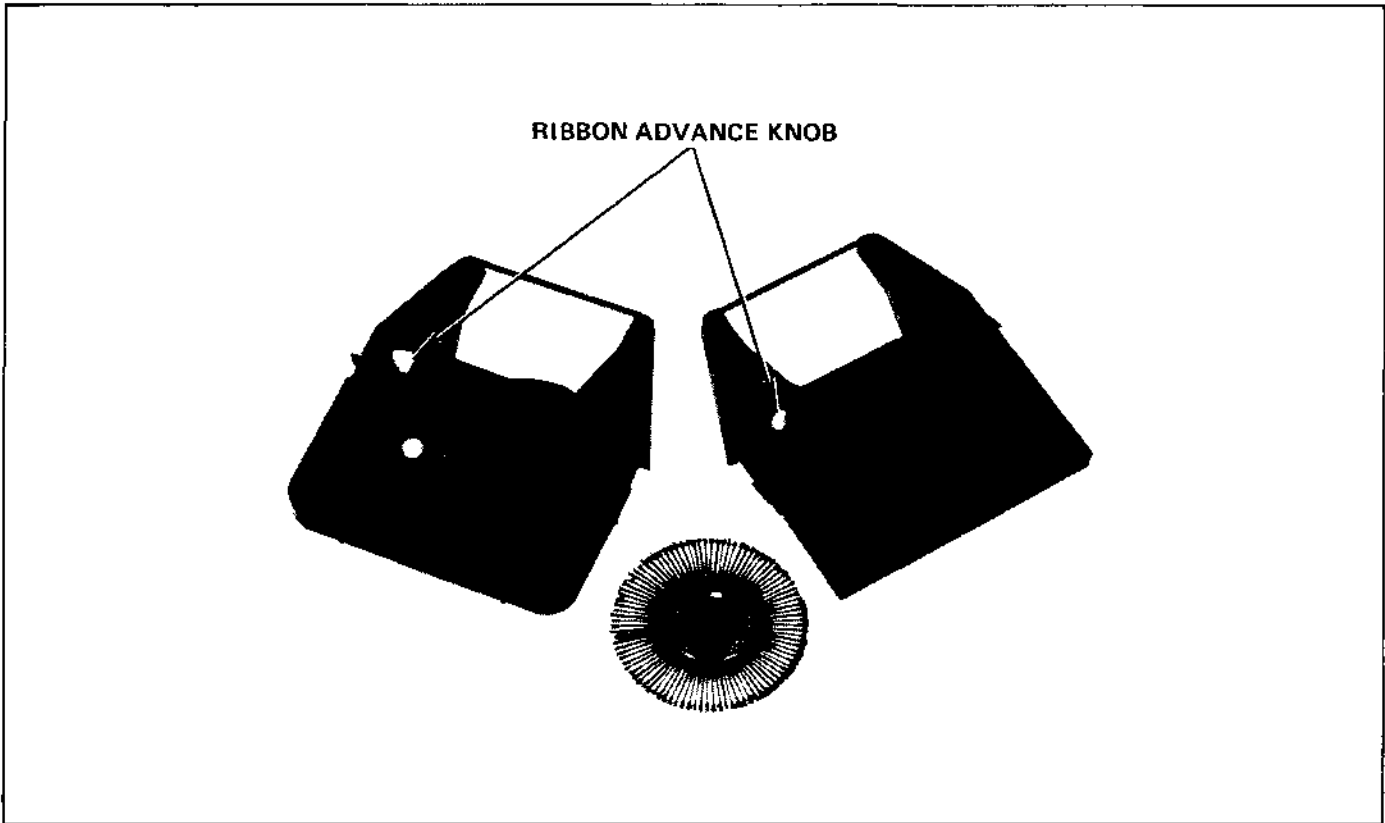

Figure 2-8. Ribbon Advance Knob
- (3) Remove the new cartridge from its container. Turn the small ribbon advance knob (Figure 2-8) in the direction indicated by the arrow, enough to remove all slack from the ribbon.